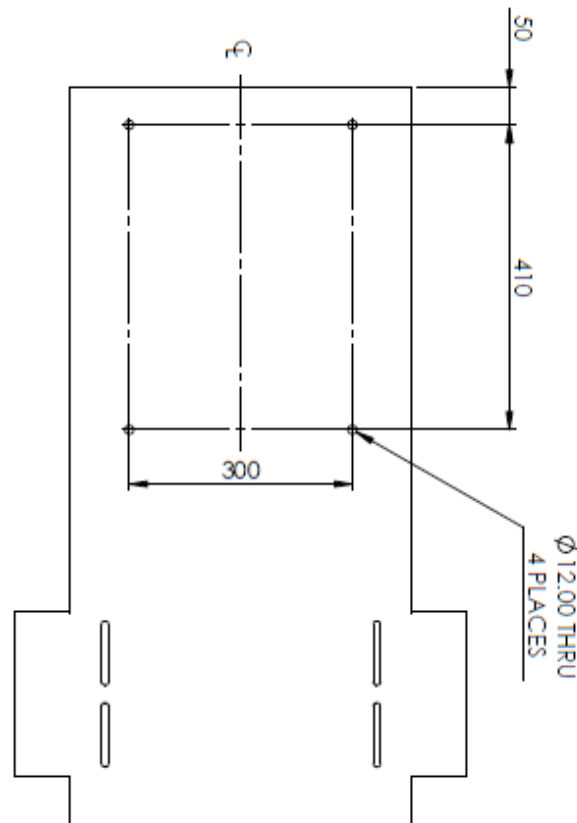

Figure 3: Wall mount bracket, bolt drilling hole alignment template - accessories insert.
- 4.2.2 Mark the mounting bolt drill hole centres on the wall. Note that the packing box accessory insert, when unfolded as shown in Figure 3, has the positions of the fixing bolts punched into the cardboard and may be used as a convenient template in this regard;